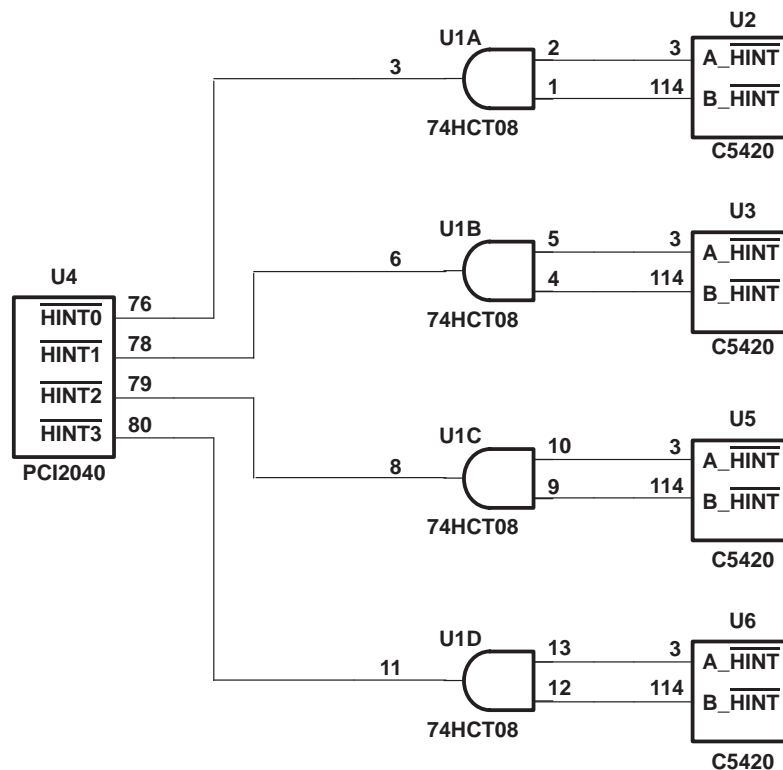

Figure 4. More Than Two C5420s Behind PCI2040
- If there are more than two C5420s, you need to AND the two interrupts on the DSP together as illustrated in Figure 4. Each interrupt on the DSP shares the same interrupt line on the PCI2040, so you have no way of knowing which subsystem asserted  $\overline{\text{HINT}}$ , and you must write a 1 to the  $\overline{\text{HINT}}$  bit of the HPIC register for each subsystem. This method corresponds to memory map 1.